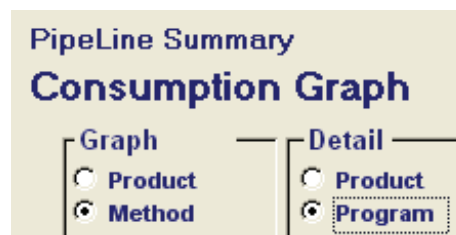

Figure 8-6—Graph options
Or, click on the Method field (under Graph, see Figure 8-6). Click on the arrow next to the Select Method field, and select a method from the pull-down menu to create a graph by method.
When you create a consumption graph by method, the Detail section of the Consumption Graph screen becomes active (see Figure 8-6). Product is selected by default, enabling you to create a graph for products associated with a selected method.
3. Click on the Program field (under Detail, see Figure 8-6).